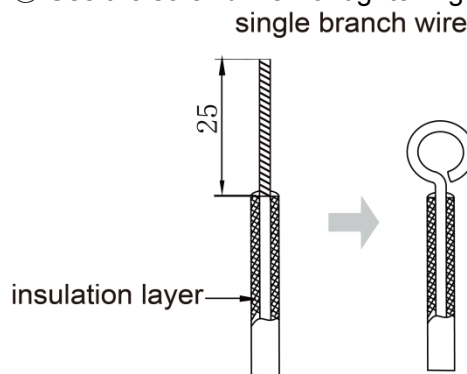

Fig 5.1.1
- (1) The connection of wire (as shown in fig 5.1.1)
- ① Strip about 25mm insulation of the wire end by stripping and cutting tool.
- ② Remove the wiring screws on the terminal board.
- ③ Shape the tail of wire into ring by needle nose plier, and keep the gauge of ring in accordance with screw.
- ④ Use the screwdriver for tightening the terminal.